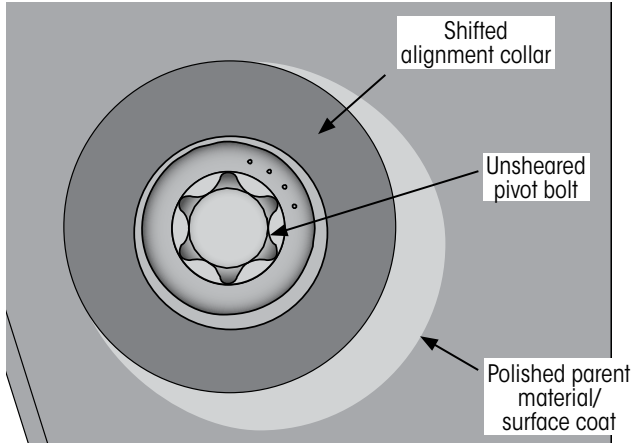
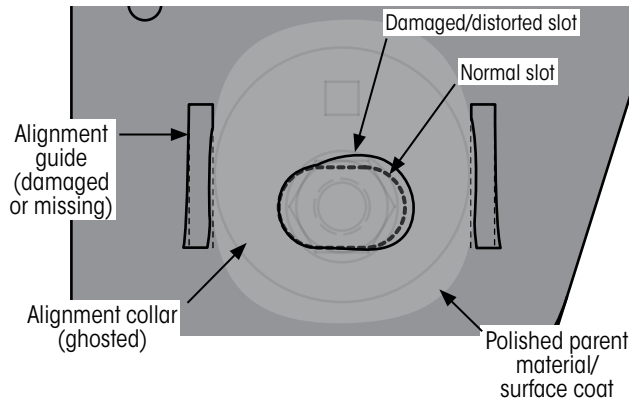

Figure 37: Loose pivot bolt, not sheared in this example
Figure 38: Damaged/distorted alignment slot
Refer to (Figure 37 and Figure 38 on page 28). The pivot bolt appears to be loose and the frame bracket side material is polished or surface coating is smudged from collar movement, or worse.
- Alignment slot(s) within frame bracket - alignment collar(s) (Figure 38 on page 28).
- A wallowed out alignment slot (Figure 38 on page 28).